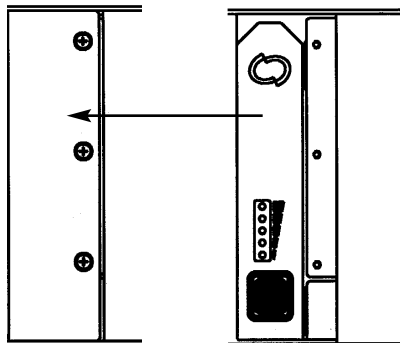

Figure 6.1 TLC-II Driver Emergency Battery Access
6.1.1.5 Remove the 3 screws on the bottom of the TLC-II Driver and open the emergency battery compartment (**Figure 6.1**).